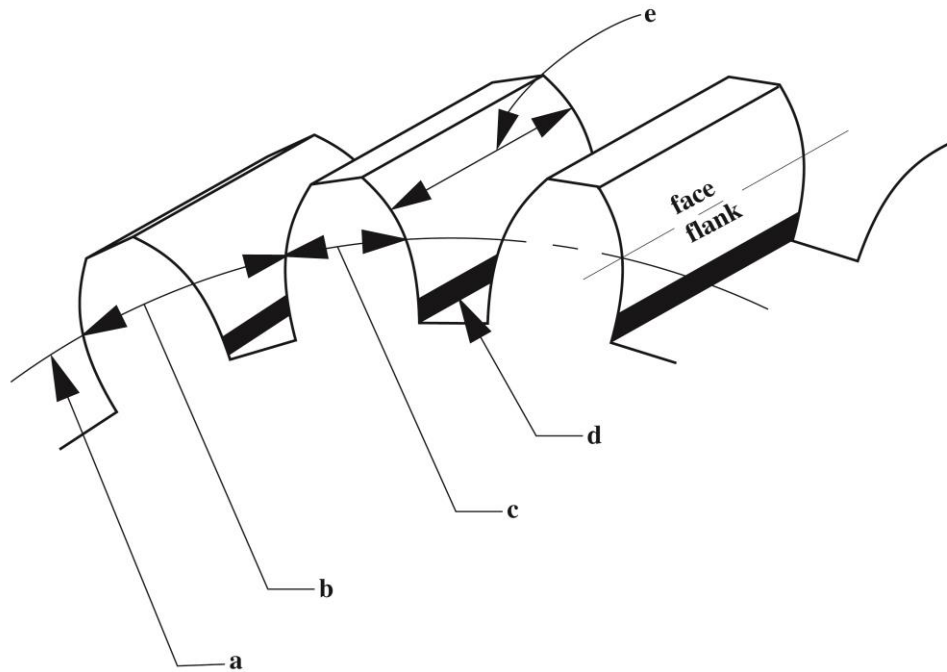

Figure 2. Parts of a spur gear
2. (a) Figure 2 shows the parts of a spur gear.